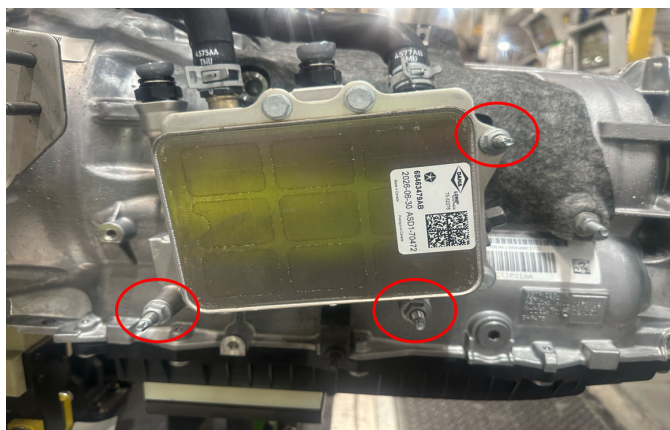

Fig. 1
3. Torque the transmission oil heater mounting nuts to proper specification Fig. 1. For torque specification refer to the Torque Specifications - Transmission Oil Cooler And Heater table available in DealerCONNECT/Service Library under: Service Info> 21 - Transmission and Transfer Case / Automatic - 8HP75 / Heater, Transmission / Removal and Installation.